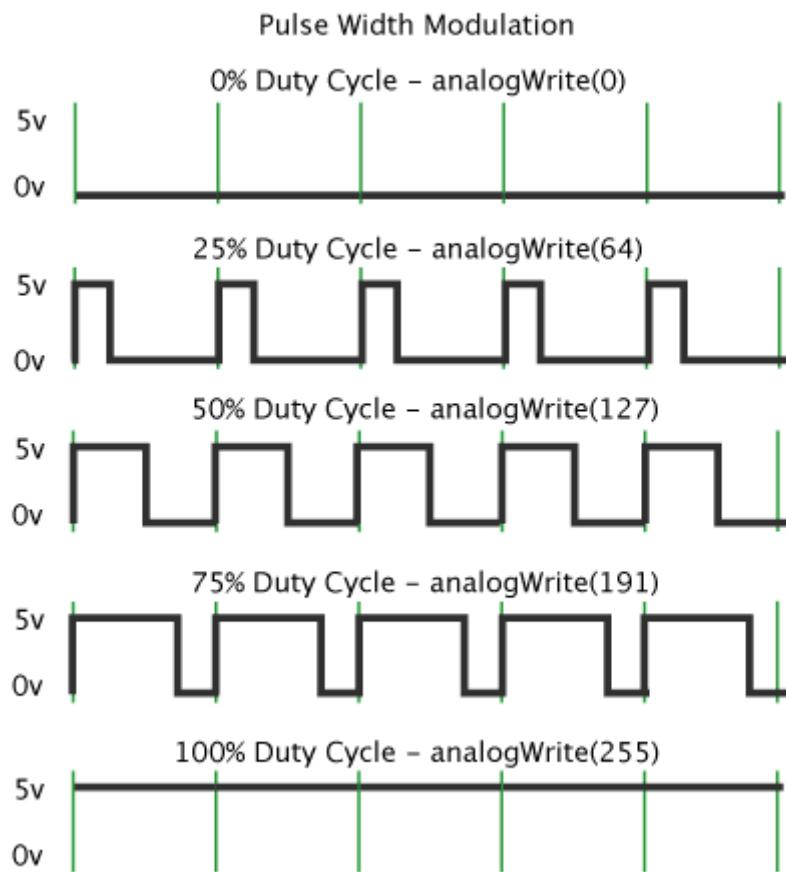

Figure 2 – Illustration of pulse width modulation¹
In Figure 2 below, the green lines represent a regular time period. This duration or period is the inverse of the PWM frequency. In other words, with Arduinos PWM frequency at about 500Hz, the green lines would measure 2 milliseconds each. A call to analogWrite() is on a scale of 0 - 255, such that analogWrite(255) requests a 100% duty cycle (always on), and analogWrite(127) is a 50% duty cycle (on half the time).